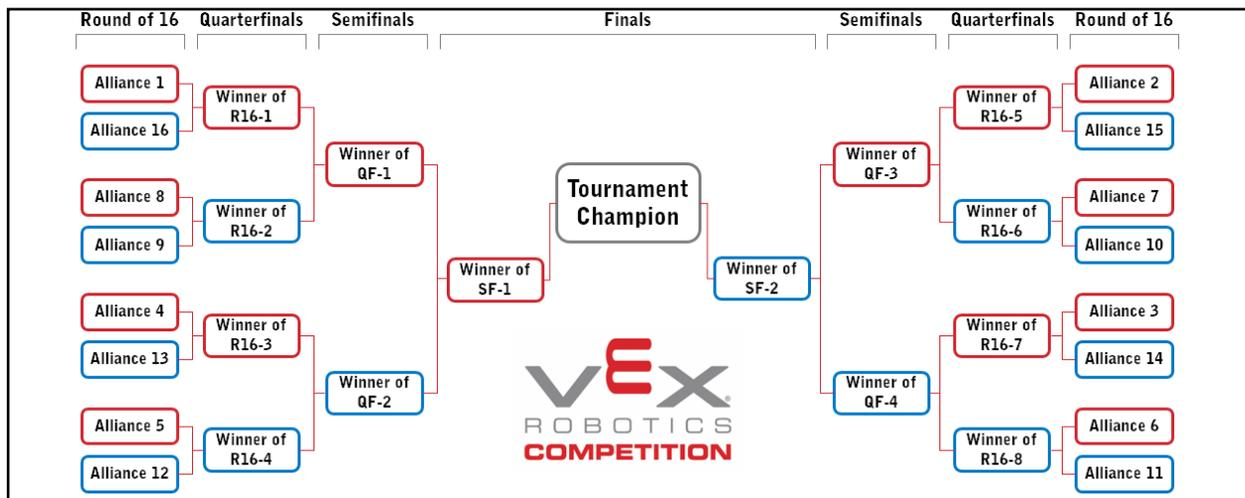

Figure 27: A 16-alliance bracket
A sixteen (16) Alliance bracket plays as shown in Figure 27: